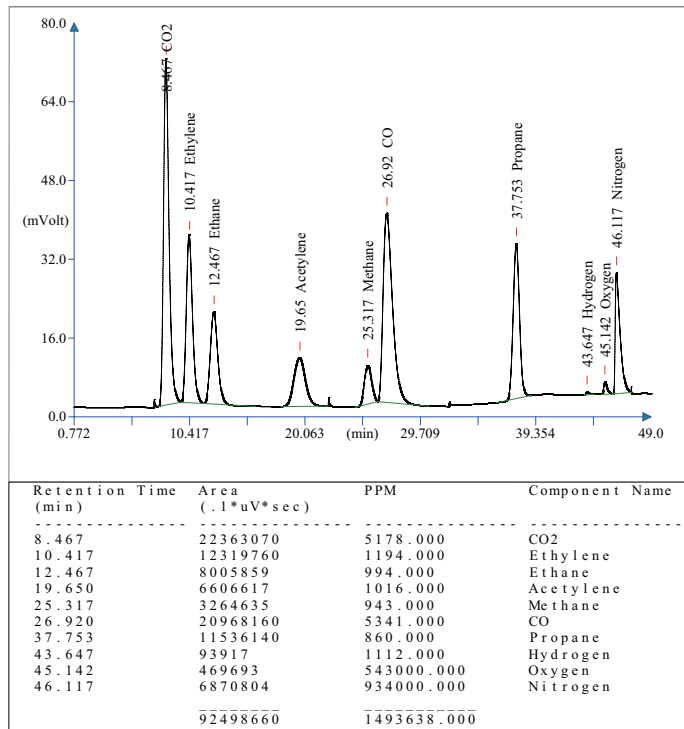

Figure 2. Typical GC chromatogram of a TOGA calibration gas mixture.
The typical GC analysis chromatogram acquired on the TRACE 1110 GC pertaining to TOGA calibration gas mixture is shown in Figure 2, and the repeatability data for the retention time (RT), area counts, and concentrations for the TOGA components are given below in Table 5.